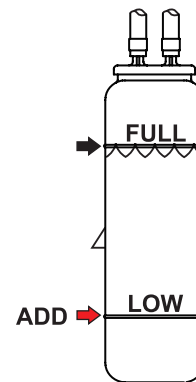

Figure 35. Coolant Reserve Tank
- Verify that the coolant level in the coolant reserve tank is between the **FULL** and **LOW** markings as shown in Figure 35.